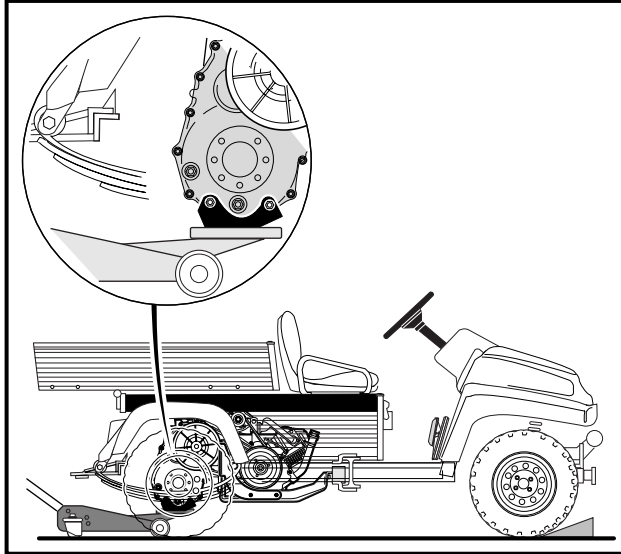

Figure 9-3 Correct Positioning of Floor Jack
- Place chocks in front of the front wheels and lift rear of vehicle with a chain hoist or floor jack. If using floor jack, place jack under transaxle as shown (**Figure 9-3, Page 9-4**).